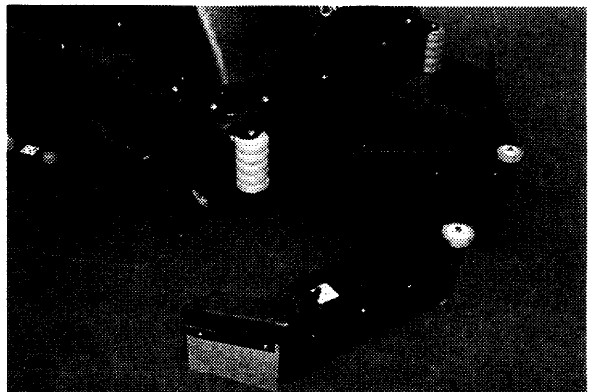

Figure 10
3. Unfasten two skirt latches and hinge open skirts to access motor hubs (Fig. 10).